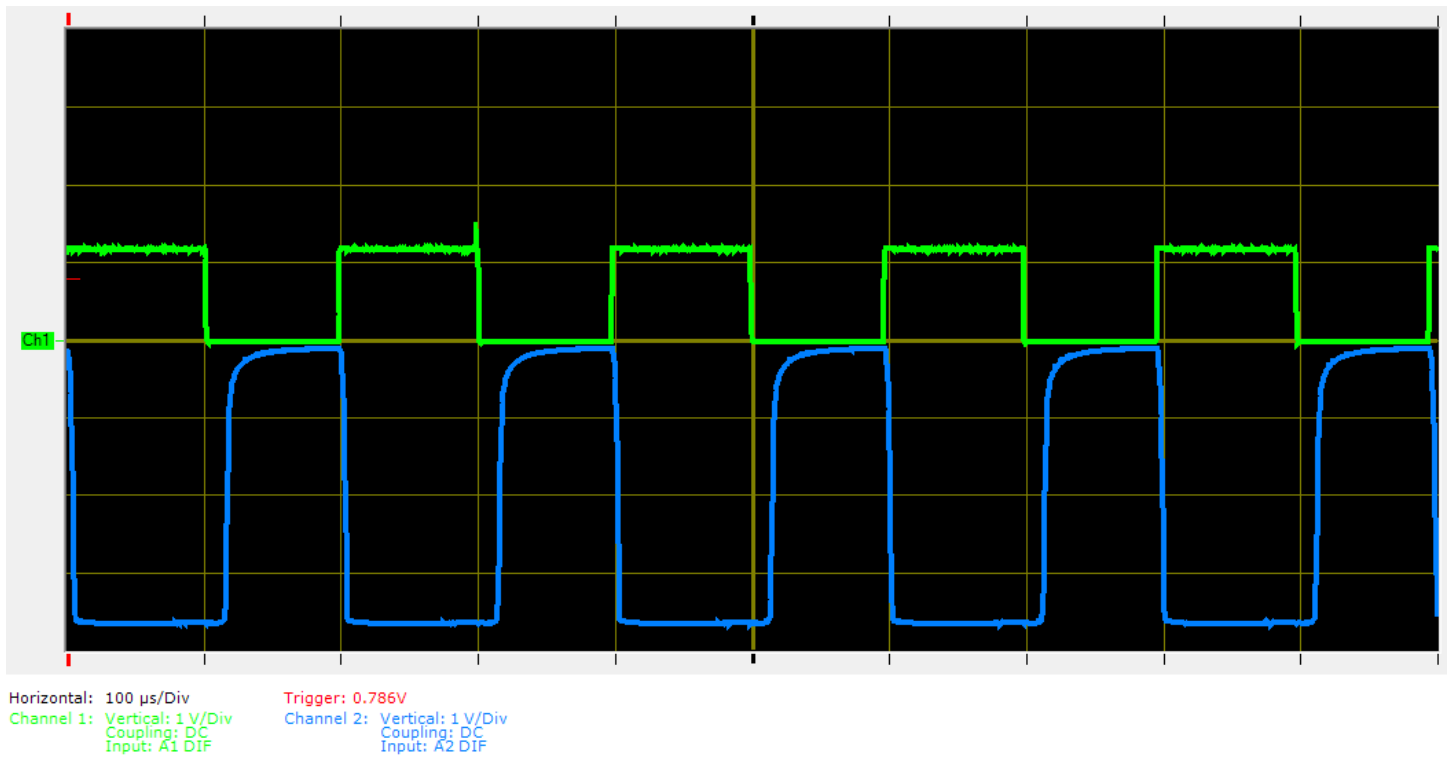

Figure 7. Transmitter (green) and receiver (blue) signal.
6) Set the Oscilloscope to measure 1 Volt/Div for both channels, both channels set for DC coupling, channel 1 set to A1 Diff, and channel 2 set to A2 Diff. The Time/div should be set initially to 100 μ sec. Start the oscilloscope, and you should see something like that in Figure 7. Note that at this point you may need to modify the transmitter and receiver so they are pointing more accurately. The LED is transmitting when the voltage across it is high, and the phototransistor is receiving when the voltage across the output/load resistor is low. Capture your picture and put it in your memo and you are done!